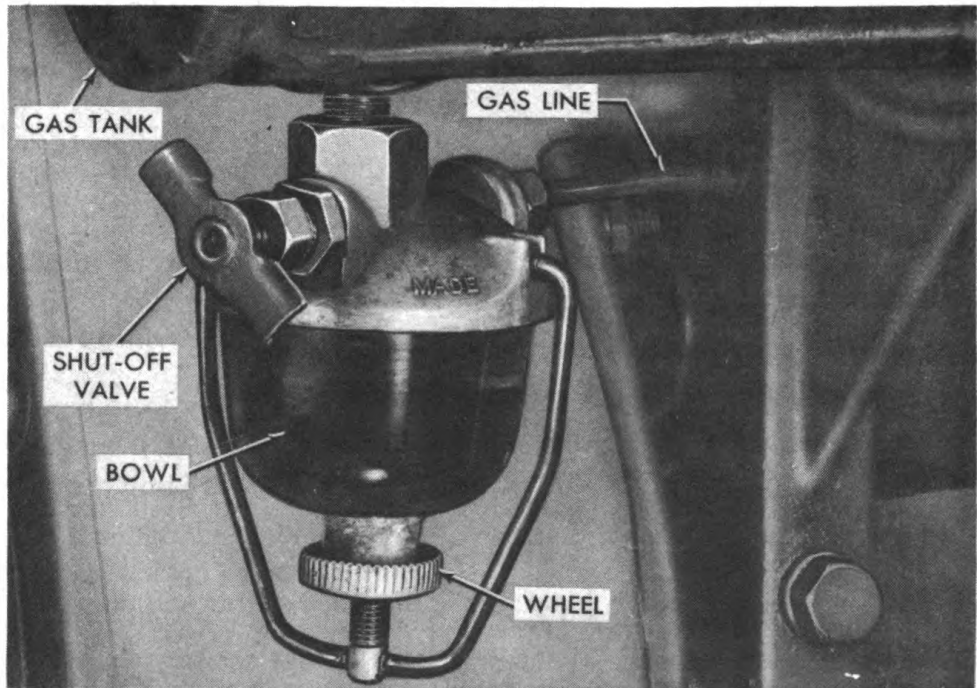

Figure 24—Sediment Bulb
16. SEDIMENT BOWL. (See figure 24.)